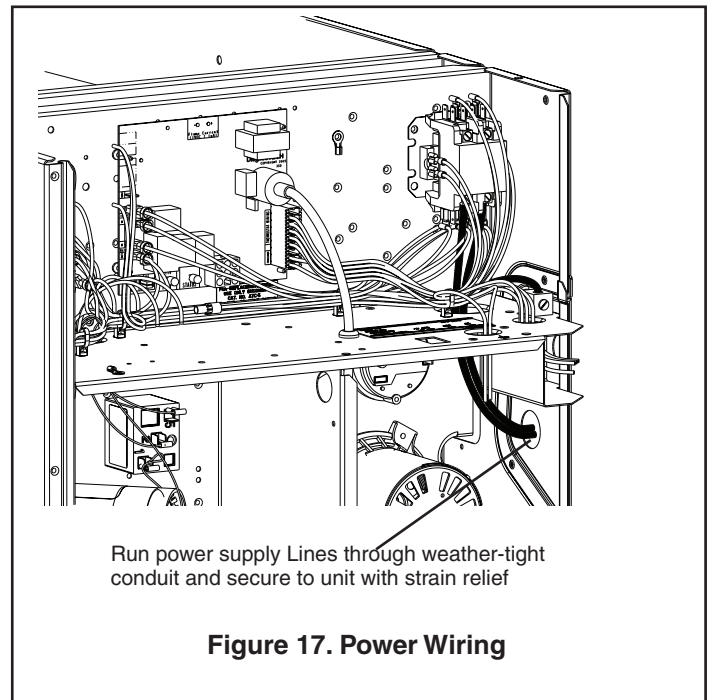

Figure 17. Power Wiring
1. Remove the Control/Heat access panel. Pass the power wires through the Power Entry hole in the end of the unit. See Figure 17.